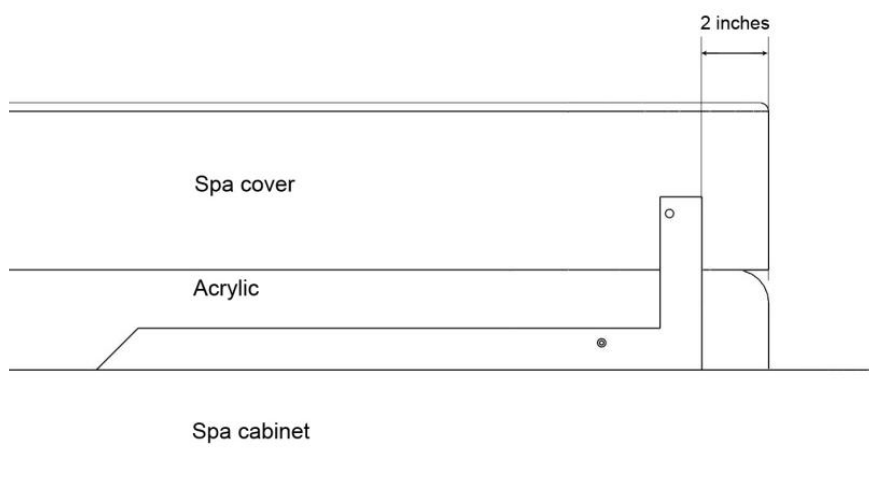

Figure 6a
a. Align the Channel Bracket (cvBB) flush against the rim of the spa. The rear of the Channel Bracket (cvBB) should be 2" from the back edge of the spa, as shown in Fig 6a.